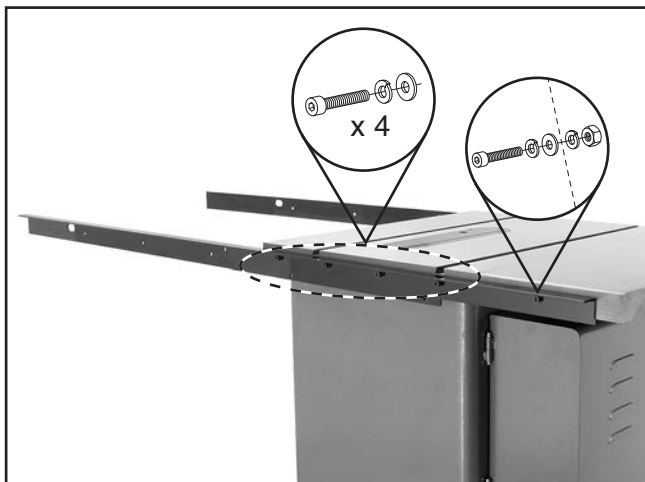

Figure 3. Rear rail installed.
2. Fasten 79" rear rail to table with (4) M8-1.25 x 25 cap screws, 8mm lock washers, and 8mm flat washers, as shown in **Figure 3**. Secure left side of rail to table with (1) M8-1.25 x 25 cap screw, (2) 8mm lock washers, (1) 8mm flat washer, and (1) M8-1.25 hex nut.